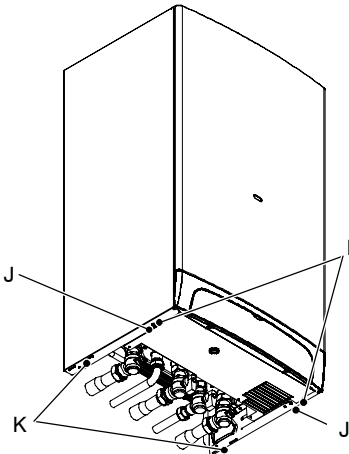

Fig. 6.13
- 2 Remove the screws I and J (Fig. 6.13).